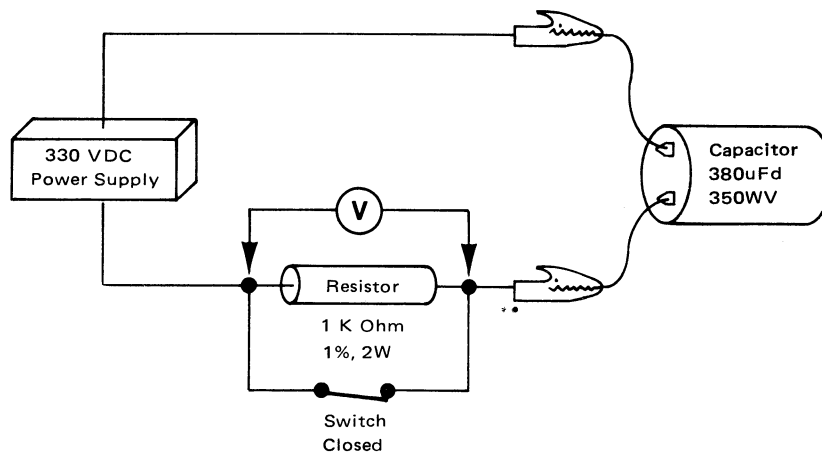

Figure 4-1. Main Capacitor Leakage Test
- 1) Disconnect main capacitor C6 from the circuit (after discharging it through a 100 ohm, 10W resistor) and connect it to the test circuit as shown in Figure 4-1.